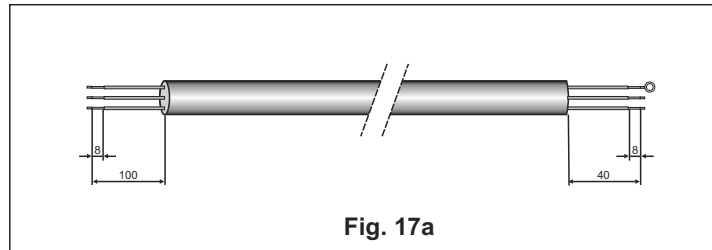

Fig. 17a
3. Prepare the cable ends for the power input and for the cables between outdoor and indoor units as shown in figure 17a and 17b respectively.